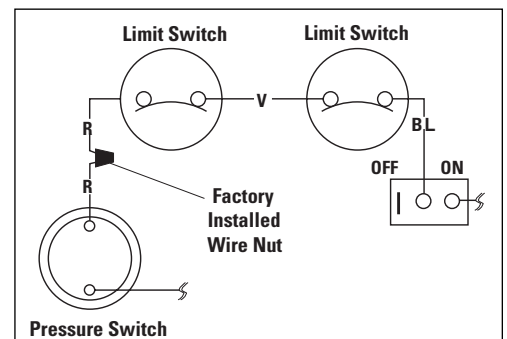

Figure 3-29 —
- Remove factory-installed wire nut between two (2) red wires labeled "CONNECTION FOR FIELD INSTALLED CONTROL SWITCH" (see Figure 3-29).